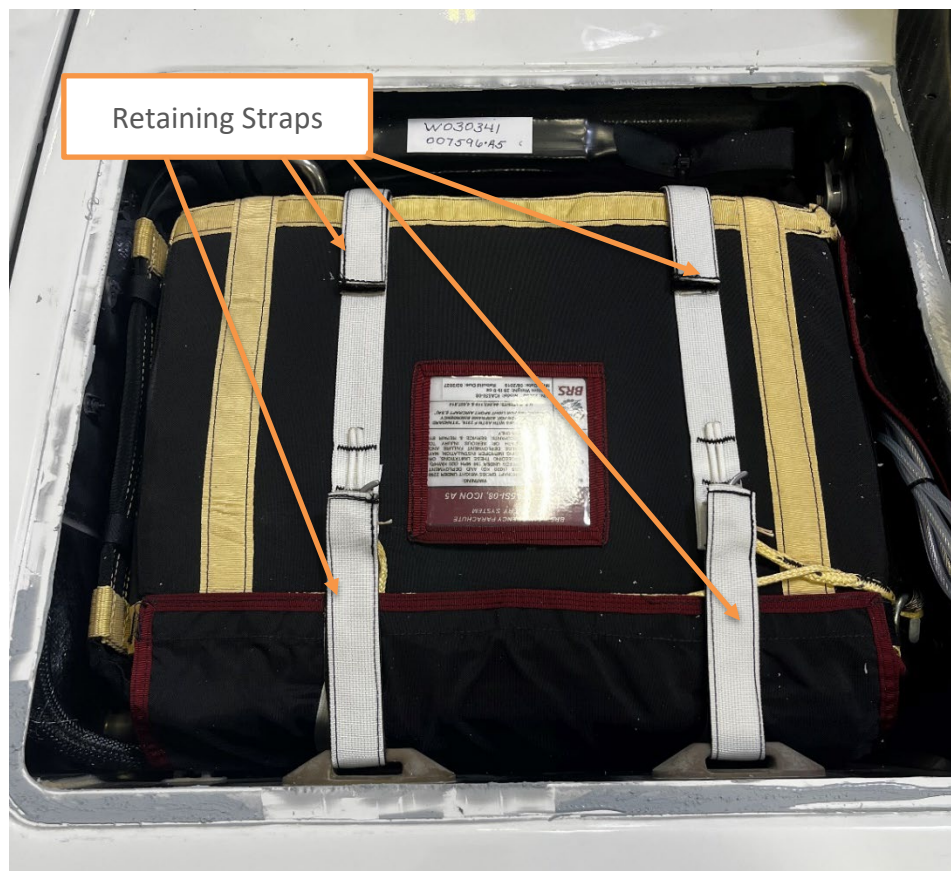

Figure 1 Parachute, with retaining straps installed, inside egress chamber.
2. Remove Retaining Straps from Click Bond Strap Fastener Loops. (**Figure 1**)
- c. Secure parachute in egress chamber using the 4x retaining straps installed through the Click Bond Strap Fastener Loops. Massage Velcro on retaining straps closed. **(Figure 1)**